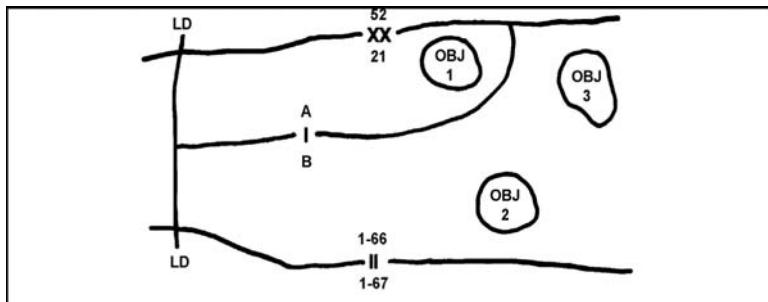

Figure 071-332-5000-16. Pinching out a unit
- j. Show the defensive battlefield. The defensive battlefield is organized into the covering force area and the main battle area (MBA) (figure 071-332-5000-17).